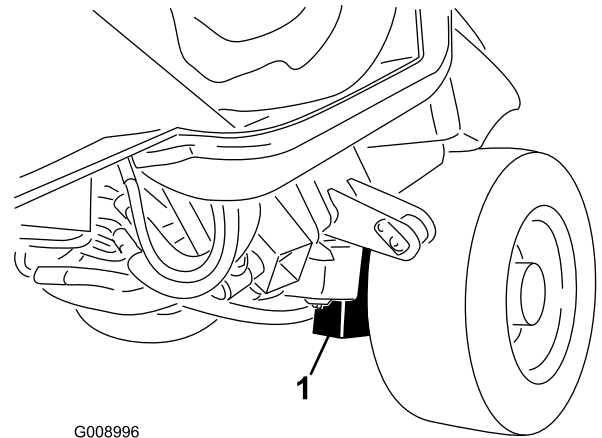

Figure 72
**Front of the machine**—on the frame, on the inside of each drive tire (Figure 72)